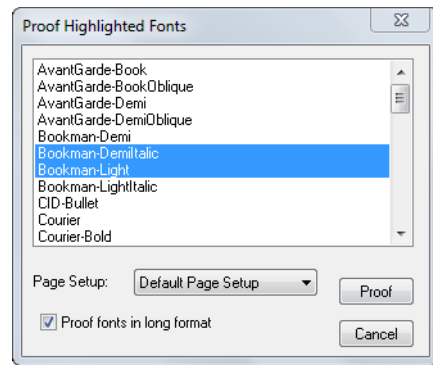

Figure 3.3 Proof Highlighted Fonts dialog box
1. From the **Fonts** menu, choose **Proof Fonts**. A window appears with a list of the available fonts, which the Rasterize-it RIP can use with any of its possible output devices. (See Figure 3.3.)